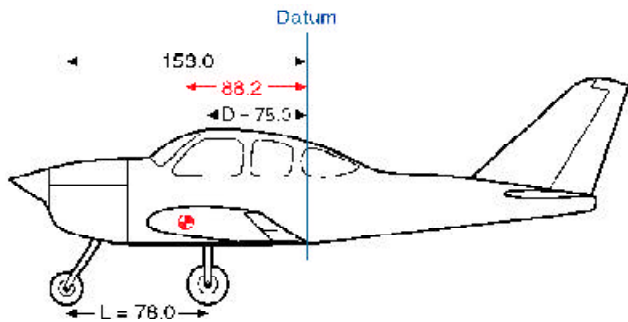

Figure 3-6. The datum is aft of the main wheels at the wing trailing edge.
The distance (D) between the datum of the airplane in Figure 3-6 and the main-wheel weighing points is 75 inches, the weight of the nose wheel (F) is 340 pounds, and the distance between main wheels and nose wheel (L) is 78 inches. The total net weight of the airplane (W) is 2,006 pounds.